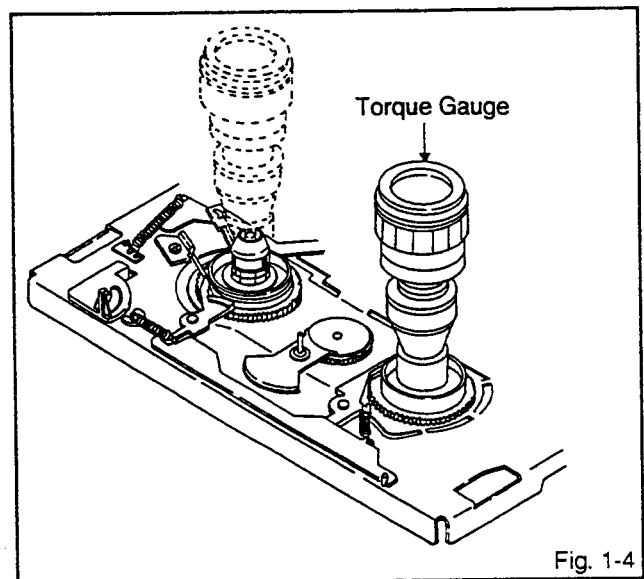

Fig. 1-4
1. Set torque gauge (JG002G) on take-up reel disk, and place unit in FAST FORWARD mode. (Refer to Fig. 1-4)
2. Set torque gauge (JG002G) on supply reel disk, and place the unit in REWIND mode. (Refer to Fig. 1-4)
(Take-Up Reel Brake) (Refer to Fig. 1-4)
(Supply Reel Brake) (Refer to Fig. 1-4)